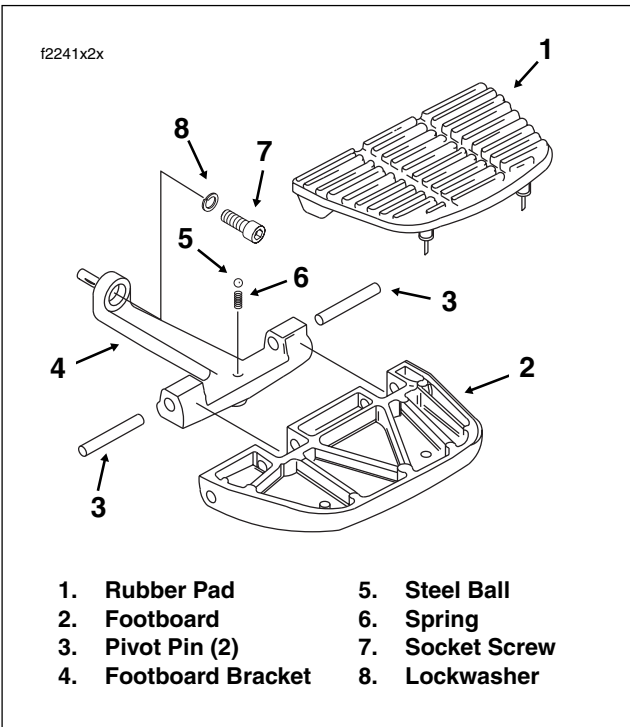

Figure 2-204. Passenger Footboard
1. Tilt footboard upward. From bottom of footboard, use a small flat blade screwdriver to push rubber beads on pad up through holes in footboard. Remove pad. See Figure 2-204.
2. Place spring into hole in footboard bracket. Place ball on top of spring. See Figure 2-204.